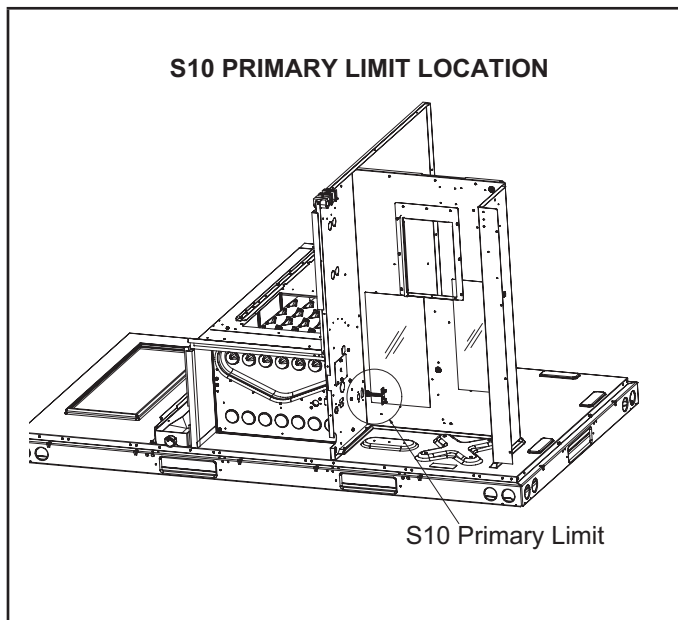
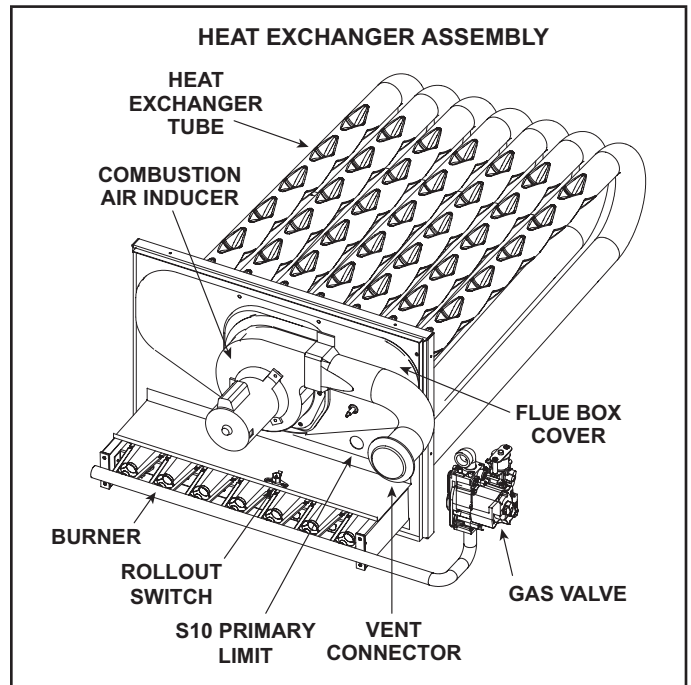

Figure 14
Figure 15
The S10 limit location depends upon the indoor blower assembly installed. S10 limit for the Direct Plus Blowers are located on the left wall in the control box area (Figure 14). This S10 limit style is a closed faced switch mounted on a 3 inch stilt. S10 limit for the ECM blowers are located on the vestibule panel in the heat access compartment (Figure 15). This S10 limit style is an open-faced button switch mounted through a 1" diameter hole.
3. Heat Exchanger (Figure 15)